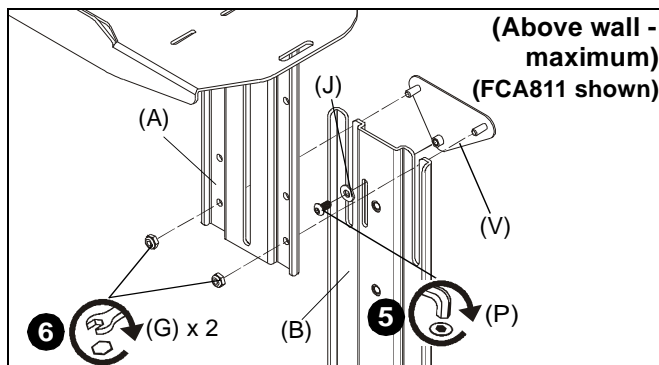

Figure 18
- (For **maximum extension**) Use #10-32 x 3/8" button head cap screw (P) and small washer (J) to secure adapter plate (V) to main bracket (B). (See Figure 18)
- (For **maximum extension**) Use two #10-24 lock nuts (G) to secure upright bracket (A) to main bracket (B) and adapter plate (V). (See Figure 18)